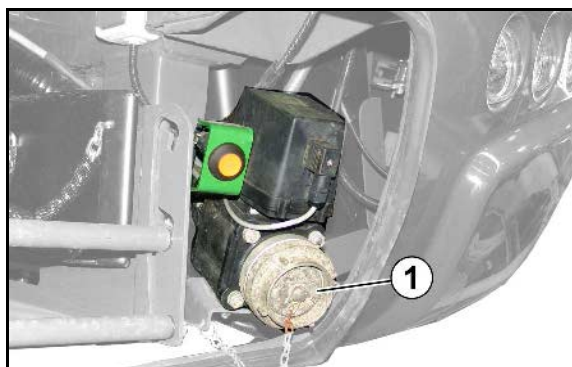

Fig. 77
- Filling with free flow path and swivel spout (Fig. 77).